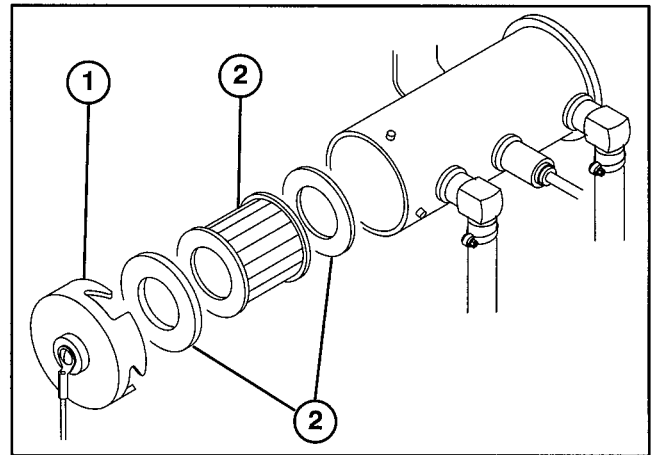

Figure 40
4. Place a drain pan under fuel pump and remove cover from fuel pump (Fig. 40). Take care not to damage wire while removing cover.
5. Pull filter out of pump body (Fig. 40).
8. Clean cover of any residue (Fig. 40), insert filter into body and install cover.